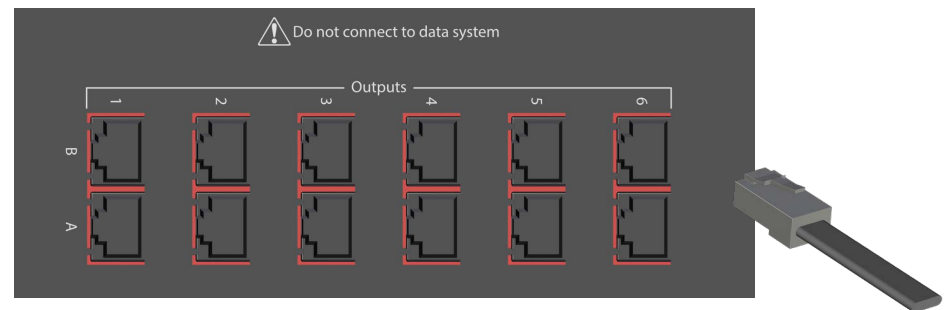

Figure 15. Emitter runs from the Qt X 300/600 controllers (Qt X 600/600D panel shown)
1. Determine emitter installation locations based on the system plan provided by the Design Team. Run cables from the controller to the first emitter location for each run per output (Figure 15). Label the cabling such that the location of the run is easily identifiable at the point of connection to the Qt X. For example: Output 1A - main office, Output 2A - Lobby, etc.